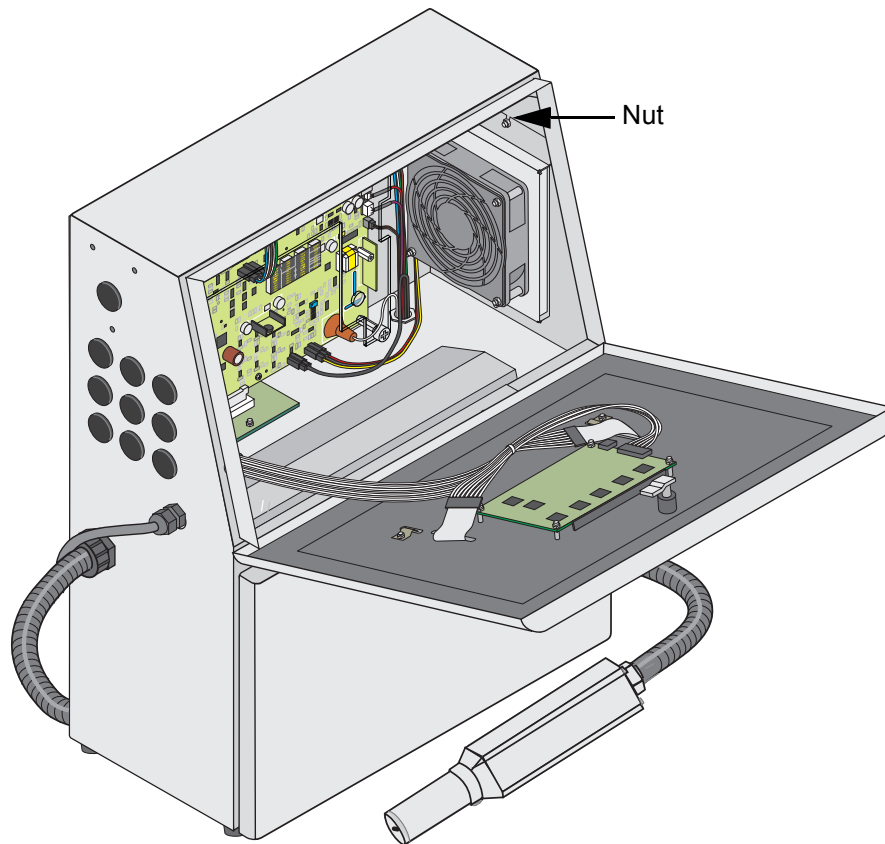

Figure 8-5: Retaining Nut in the Fan Assembly
- 3 Remove and retain the nut (Figure 8-5) that holds the fan assembly in place, by turning it counter-clockwise.